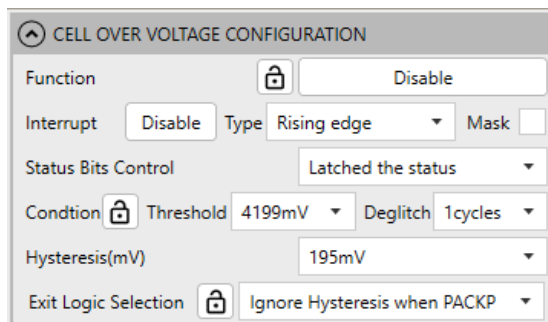

Figure 24: Cell Over-Voltage Configuration
16. Figure 24 shows the Cell Over-Voltage Configuration settings in the GUI.